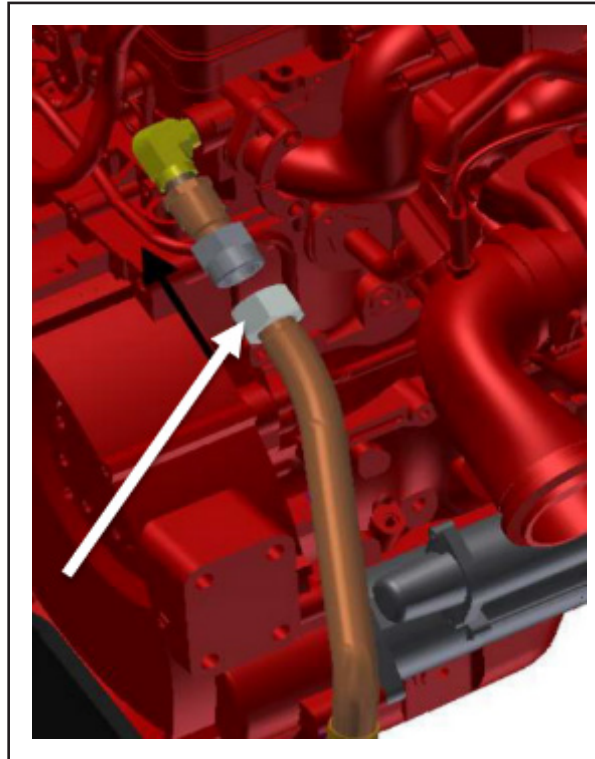

Figure 5 - Apply torque to pipe nut
- 1.10. Apply torque pipe nut to 128-142 Nm (see figure 5).